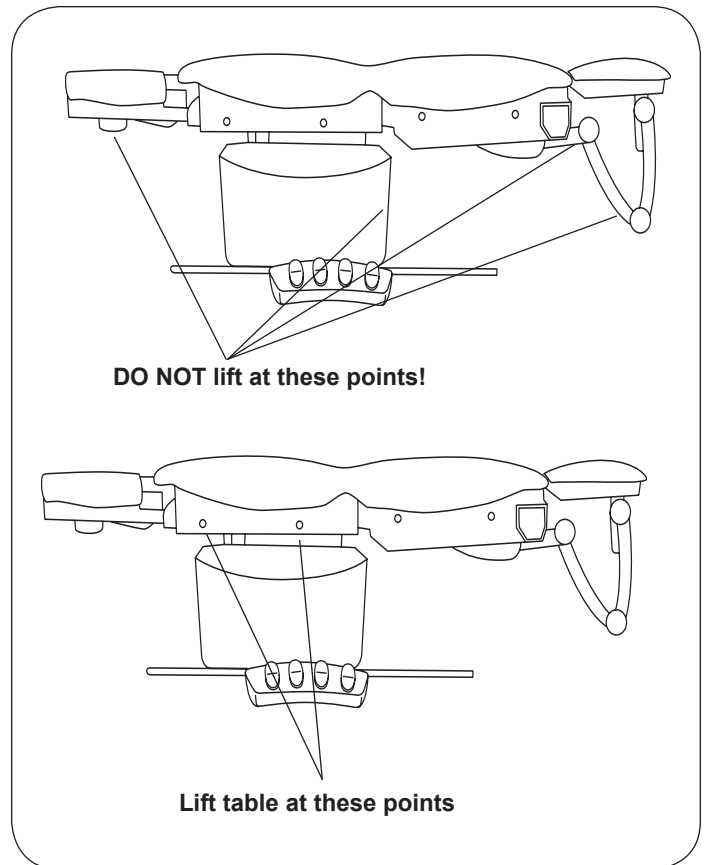

Figure 3. Table Lift Points
To avoid damaging the table's upholstery or painted surfaces, **DO NOT** use a knife or other sharp object to open the packaging. Also, to avoid damaging the table lift only at points indicated in Figure 3. Do not lift at other points as indicated in Figures 3 and 4.
2. Remove the table from the shipping skid by sliding it off the front of the skid. Be sure to lift at the correct points as indicated in Figure 3. Position the table in the desired room location.